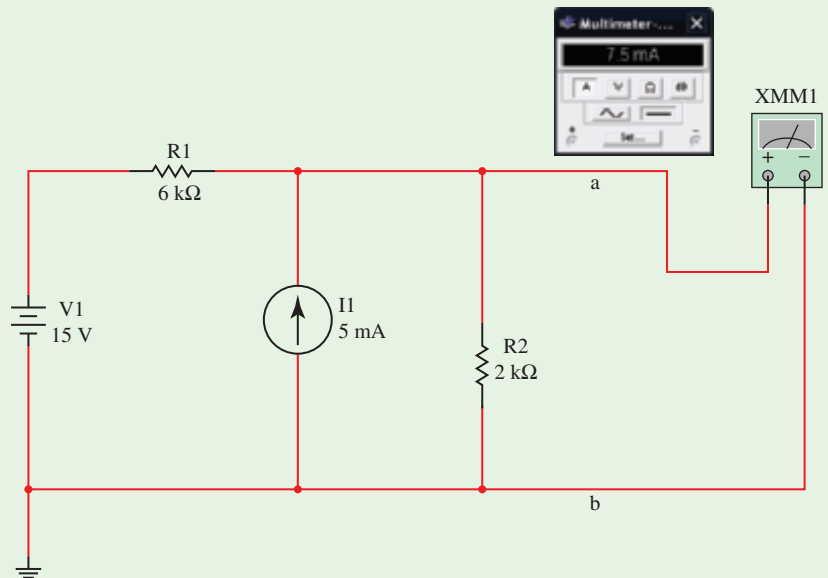

FIGURE 9–69
- c. With the multimeter between terminals a and b , the Norton current is easily measured by switching the multimeter to its ammeter range. After clicking on the power switch, we obtain a reading of $I_N = 7.50$ mA as shown in Figure 9–69.
- d. In order to measure the Thévenin resistance, the voltage source is removed and replaced by a short circuit (wire) and the current source is removed and replaced by an open circuit. Now, with the multimeter connected between terminals a and b , it is set to measure resistance (by clicking on the Ω button). After clicking on the power switch, we have the display shown in Figure 9–70. The multimeter provides the Thévenin resistance as $R_{Th} = 1.5$ kΩ.